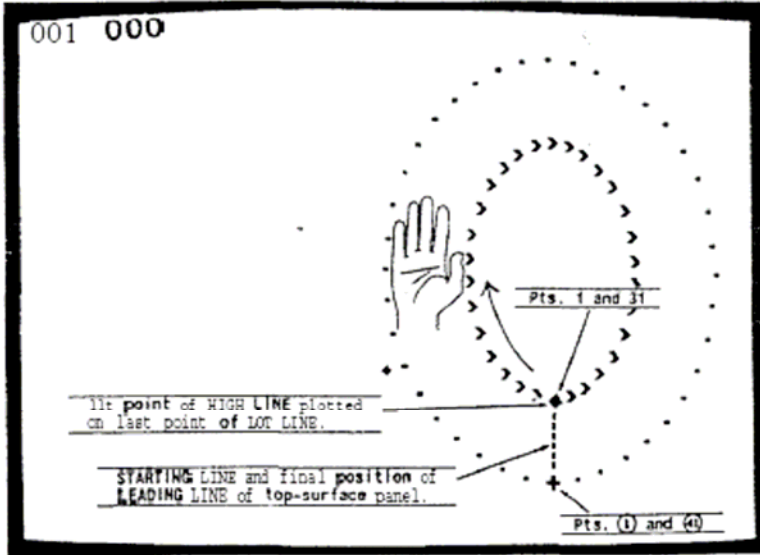

fig. 51 (HIGH LINE GRAPH)
3. Type the "." (Plot) key to form a STARTING LINE between pt. (1) of the LOW LINE and pt. 1 of the HIGH LINE (see fig. 51).
3. Construct all of the triangles of the top-surface panel by first moving the cursor with the "<" (Back/LOW LINE) key; then constructing either two triangles with the "R" (Rectangle) key or one triangle with the "L" (LOW LINE) key as needed, (NOTE: this time it is necessary to occasionally use the "L" (LOW LINE) key to keep both points of the LEADING LINE as close together as possible as the LEADING LINE moves around the oval.) Stop when the LEADING LINE coincides with the STARTING LINE. Use the RIGHT HAND RULE to confirm that the top surface side of the panel is the visible side (fig. 51).